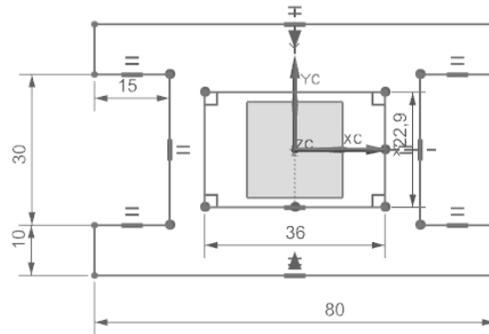

*Figure 3-48 The outer profile after adding the required dimensions*
2. Select line 1; the current dimension of the line 1 is attached to the cursor. Now, you need to place the dimension at the required location. Click the left mouse button below the line 1 to place the dimension, refer to Figure 3-48. As you place the dimension, an edit box is displayed. Enter **80** in the edit box and press ENTER. Next, choose the **Fit** tool from the **Orientation** group of the **View** tab.
6. Exit the **Rapid Dimensions** tool by pressing the ESC key twice and then drag the dimensions to place them properly around the sketch, refer to Figure 3-48.